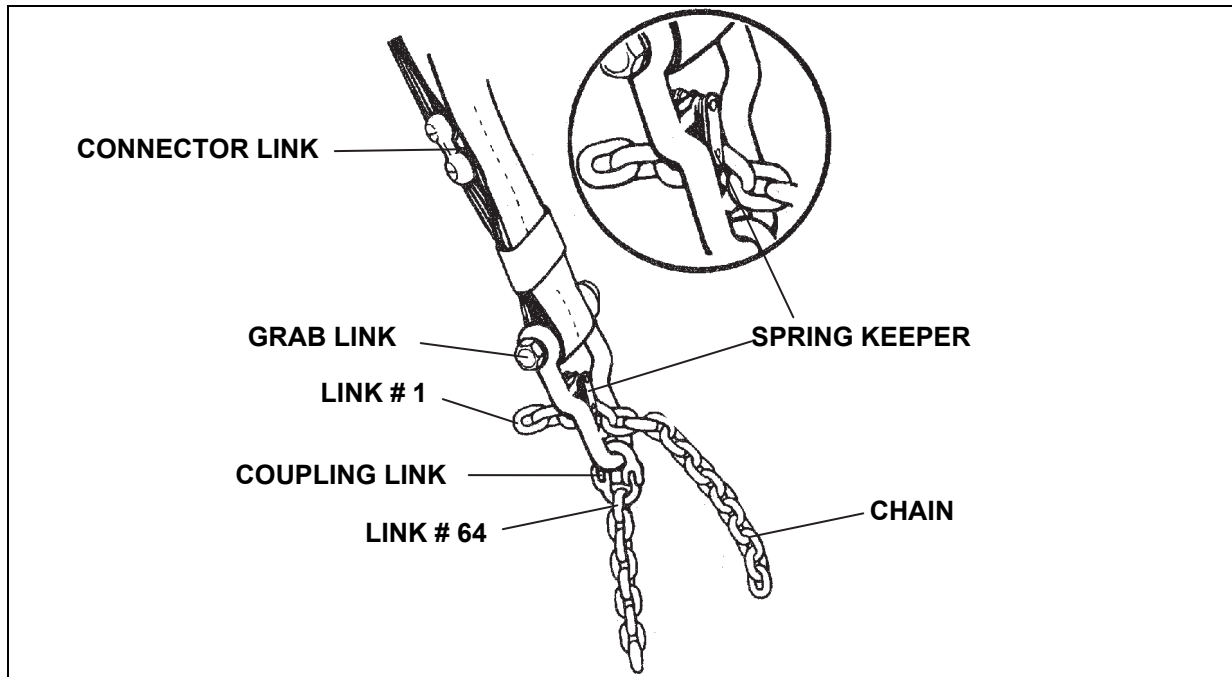

Figure 6-25. Grab Link with Spring Keeper
- **Grab Link Assembly.** The next item on the sling set, the metal grab link, is attached to the lower end of the nylon web sling leg. This grab link is equipped with a spring-loaded keeper as shown in the inset of figure 6-25. At the lower end of the grab link you will see the coupling link that is used to connect the chain leg to the grab link.